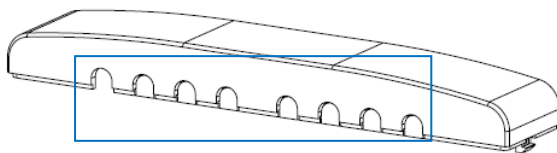
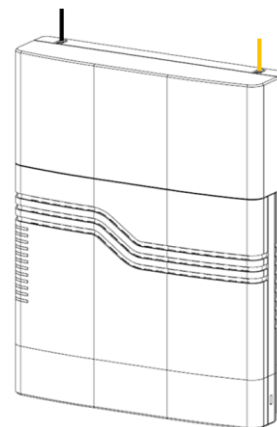

Figure 20. Remove RJ-45 hole baffles
Figure 21. Install LAN cable protection cover
Step 9. Remove hole baffles on the “LAN cable protection cover” (Figure 20) and finally install the “LAN cable protection cover” (Figure 21).